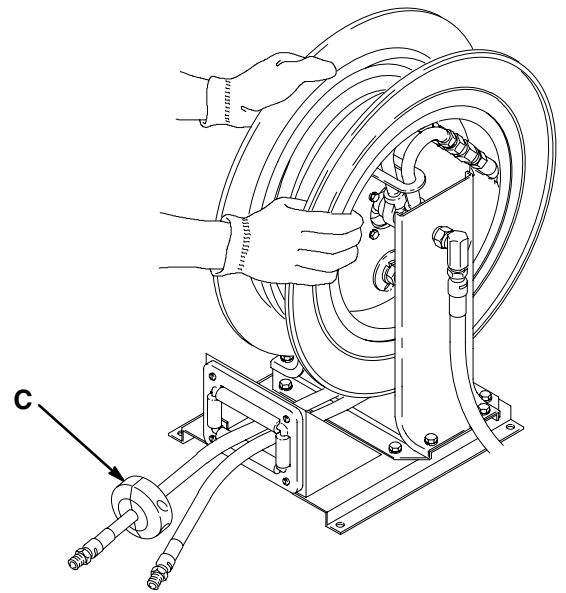

Fig. 2
1. Position a ball stop (C) on each hose so the hose extends far enough for all operators to reach it.
2. Install a dispensing valve on the end of each hose. See Fig. 2.
2. Unscrew the 90° swivel (42, see **Parts Drawing** on page 10) from the shaft (69).
3. Remove the screws and lockwashers (27, 18) and support bracket (11).
5. Hold the reel with **gloved** hands, unlatch the reel, and let it slide slowly through your hands until the spring tension has been released. See Fig. 2.